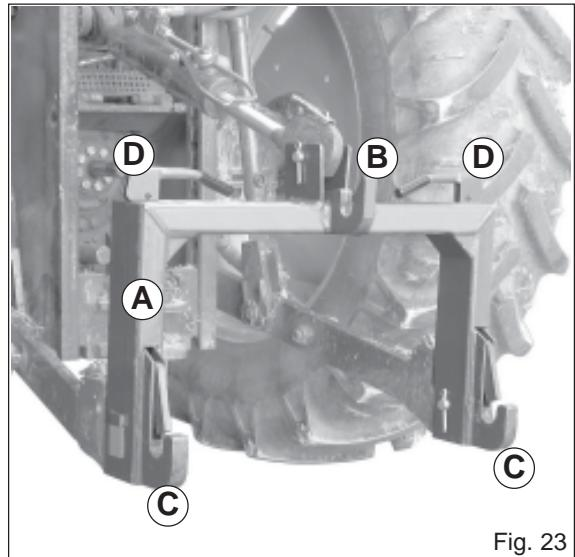

Fig. 23
- 1) Install hitch Quick Coupler (A, Fig. 23) on the tractor (see tractor operator manual).
- 2) Stop vehicle on a level surface, not on a slope, then moving back to the tractor until the Quick Coupler (A) is range with the (B and C, Fig. 23) hitch points of the sickle bar.
- 3) Raise the Quick Coupler (A, Fig. 23) and make sure that
4. Raise the two Quick Coupler levers (D, Fig. 23) to unlock sickle bar.